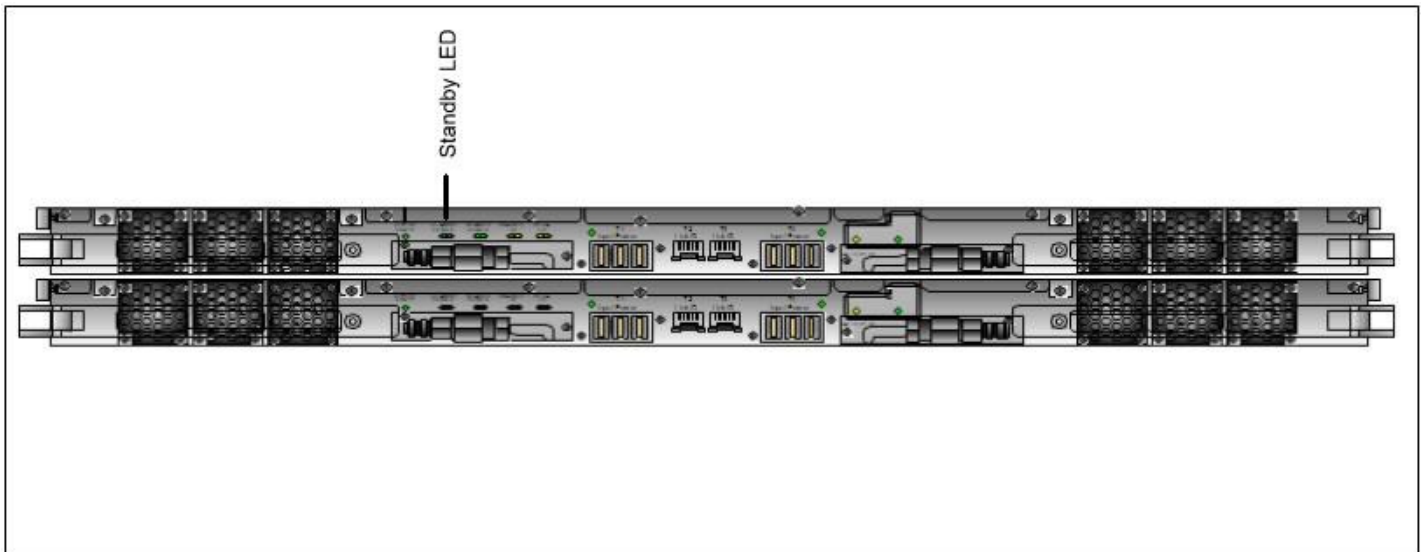

Figure 29 Standby Power LED
STEP 38 Wait for the CEC FSP to be active. The 'Standby Power' LED will be lit on the top DCCA as shown in Figure 29.